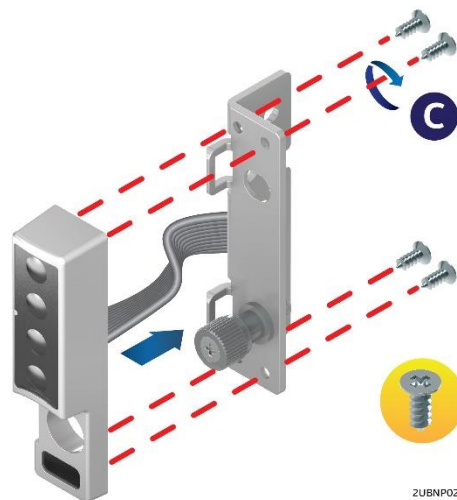

Figure 62. Installing the front control panel assembly to the rack handle
3. Install the front control panel assembly to the rack handle with the four screws (C) as pictured in Figure 62.